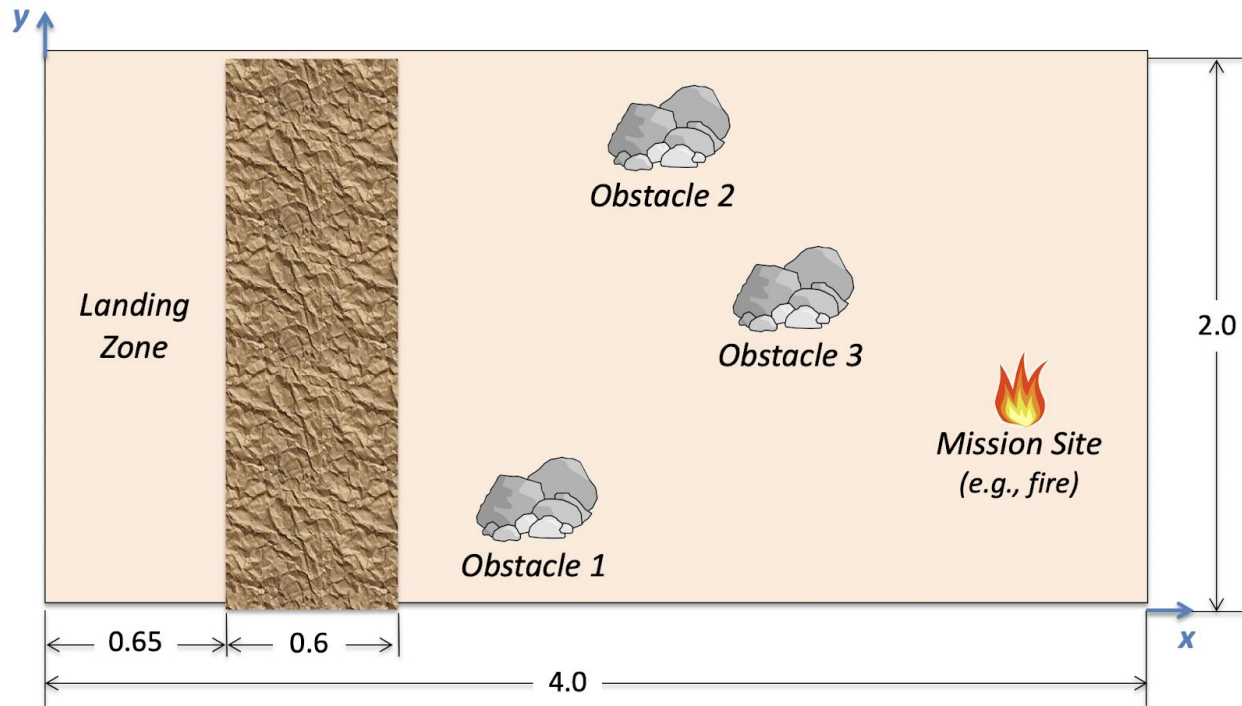

Fig. 1: Mission area showing a representative arrangement of obstacle locations.
- The terrain consists of loose sand with depths of 15 – 60 mm above the rock substrate and a narrow strip of navigable rocky terrain. Additional topographical features unseen by initial imagery may exist that could further inhibit travel (see Figure 1 on page 4).
The mission area shown in Fig. 1 indicates the location of the landing zone, narrow strip of navigable rocky terrain, and a representation of the three randomly located rocky obstacles as well as the mission destination site. All dimensions and coordinates are in meters and measured relative to the vision system's x-y frame of reference. The precise coordinates of the mission destination site will be available via WiFi transmission during each mission attempt for all missions except for the black box mission. The precise coordinates of the black box is unknown.